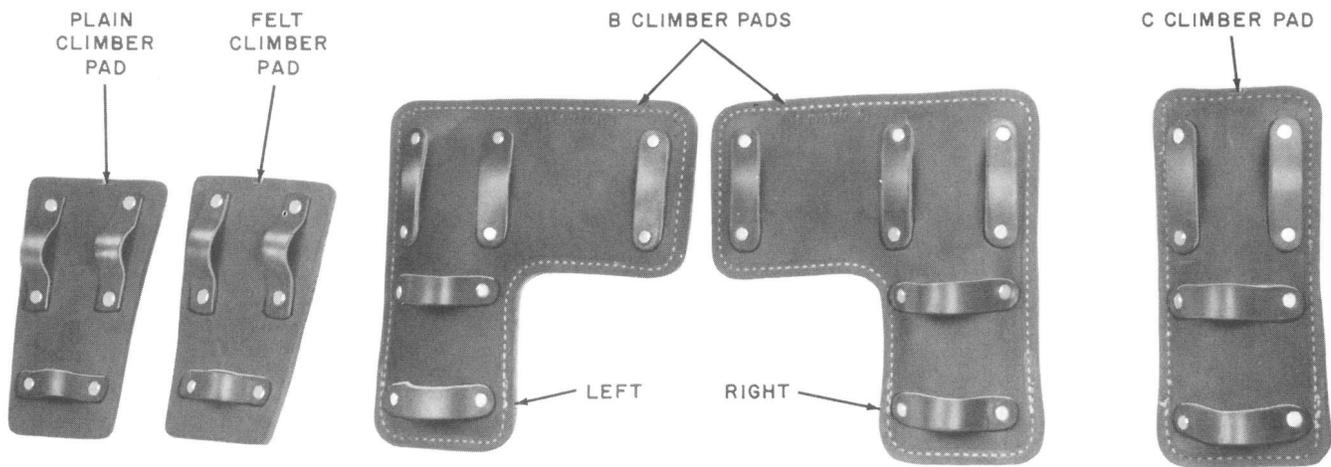

Fig. 4—Pads
2.09 Pads are used with climbers to protect the shins and calf of the leg against irritation by rubbing when the climbers are strapped to the legs. Plain leather, felt lined, and cushioned pads are available as shown in Fig. 4. Cushion pads are coded B climber pads (angle) and C climber pads (straight). The plain and felt lined pads are generally used when wearing boots that cover the calf of the leg. The wrap-around design of the B climber pads furnishes additional protection at the shins. Occasionally the top edge of a new pad may initially dig into the leg in use. This can be overcome by dulling the top edge by rubbing with a rounded metal tool.